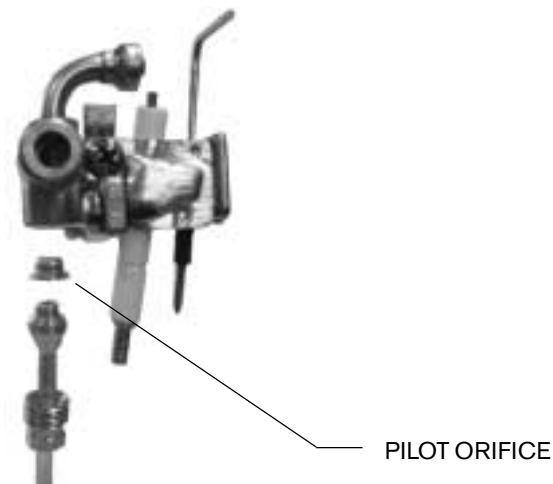

Fig. 13 - Pilot burner with pilot orifice
**To clean the pilot burner and/or the pilot orifice:** Turn off the gas at the unit (Position ' O '). Remove the cover of the heater. To do so, pull off the temperature knob and unscrew and remove the temperature knob collar. Pull main cover out toward you and lift up and out. The pilot orifices should also be cleaned or replaced. **Do not enlarge the orifice (see fig. 13).** Do not use any wire or sharp object to clean orifices. Natural gas orifices are large enough that you can usually clean them by blowing through them. LP orifices, on the other hand, are too small to clean and should be replaced. See #3 in Trouble Shooting Section. To access the pilot orifice, remove 2 screws holding pilot assembly in place. Then loosen the compression fitting and lift up pilot burner to expose pilot orifice.
Clogging of the pilot burner can be caused by dust in the air or dirt in the gas. The pilot orifice or gas filter may need to be cleaned or replaced. See Fig. 13.